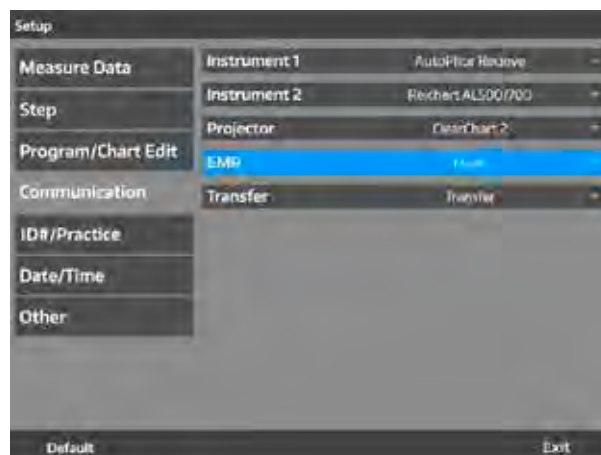

Figure IS-36 Settings Menu
1. Touch **EMR** to edit the connection settings. Refer to Figure IS-36.
1. Select the device that is being connected to the SightChek from the drop down menu that is transferring the data. Refer to Figure IS-36.